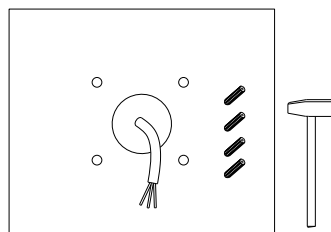

Figure 3-2
2. Fix rubber plugs into holes.(Figure 3-2)